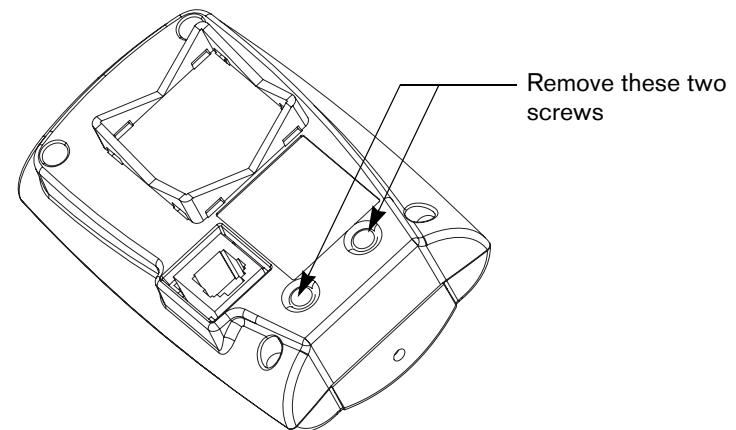

Figure 20: Remove screws holding headphone jack
3. Remove the two screws at the bottom of the receiver with a crosshead screwdriver. See Figure 20.